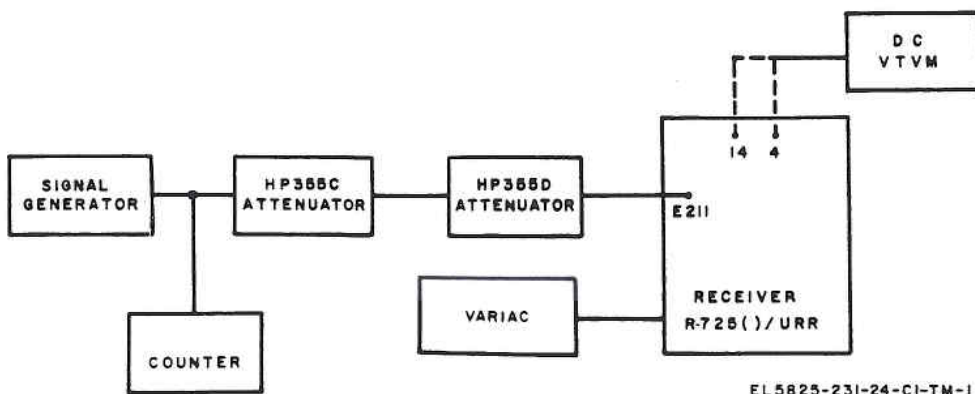

Figure 4-50. Radio Receiver R-725|URR, test setup, alignment.
(1) Connect Radio Receiver R-725/URR as shown in figure 4-50. Use the variac to maintain the supply at 115 volts ac.
(2) Before performing the alignments, al-
(1) Set the receiver BANDWIDTH KC switch to .1, and tune the rf generator for maximum output as described in *e* above. Do not disturb this frequency setting during the adjustment of the agc tuning circuit in the steps in (2), (3), and (4) below.
(2) Disconnect the dc vtvm lead from terminal 14 of the rear terminal strip, and connect it to terminal 4 of the rear terminal strip.
(3) Set the receiver FUNCTION switch to AGC and the BANDWIDTH KC switch to 2.
(4) Adjust the core of Z503 for a maximum voltage reading on the dc vtvm while adjusting the rf generator attenuator to maintain a peak reading of approximately 2 volts. When the adjustment is completed, reconnect the meter to terminal 14 (diode load).
i. Resistor Selection (fig. 4-50).
(1) Switch the receiver BANDWIDTH KC switch to .1, 1, 2, 4, 8, and 16 and observe the output reading on the dc vtvm. If the output changes by more than 10 db, the corresponding resistor must be reselected to maintain the overall gain of the if.
(2) The resistors affecting the corresponding bandwidths are as follows: